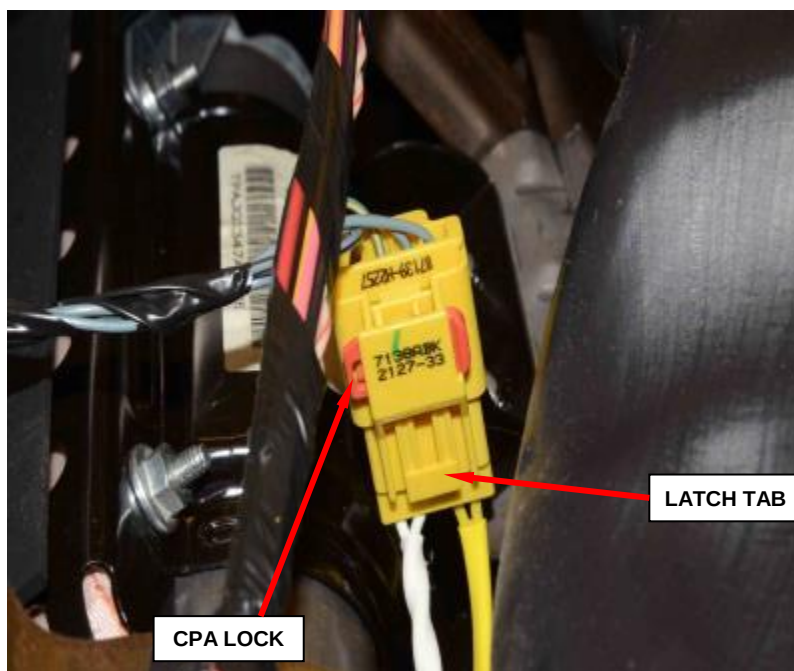

Figure 148 - Airbag Inflator Pigtail Connector
- Slide the red Connector Position Assurance (CPA) lock on the connector toward the side of the connector (Figure 148).